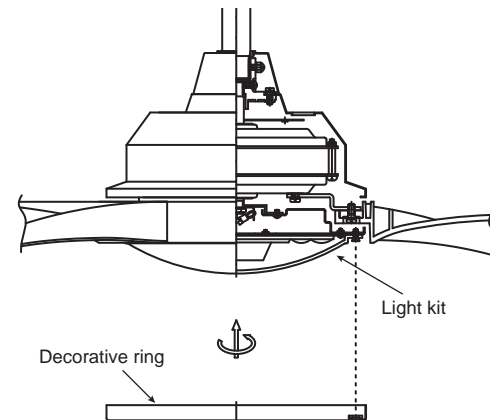

Fig. 18
Step 4. Position the notches in the decorative ring so they line up with the tabs on the LED light kit. Carefully lift the decorative ring up inside the light kit and secure it to the fan by turning the decorative ring clockwise until snug. DO NOT OVERTIGHTEN. (Fig. 18)